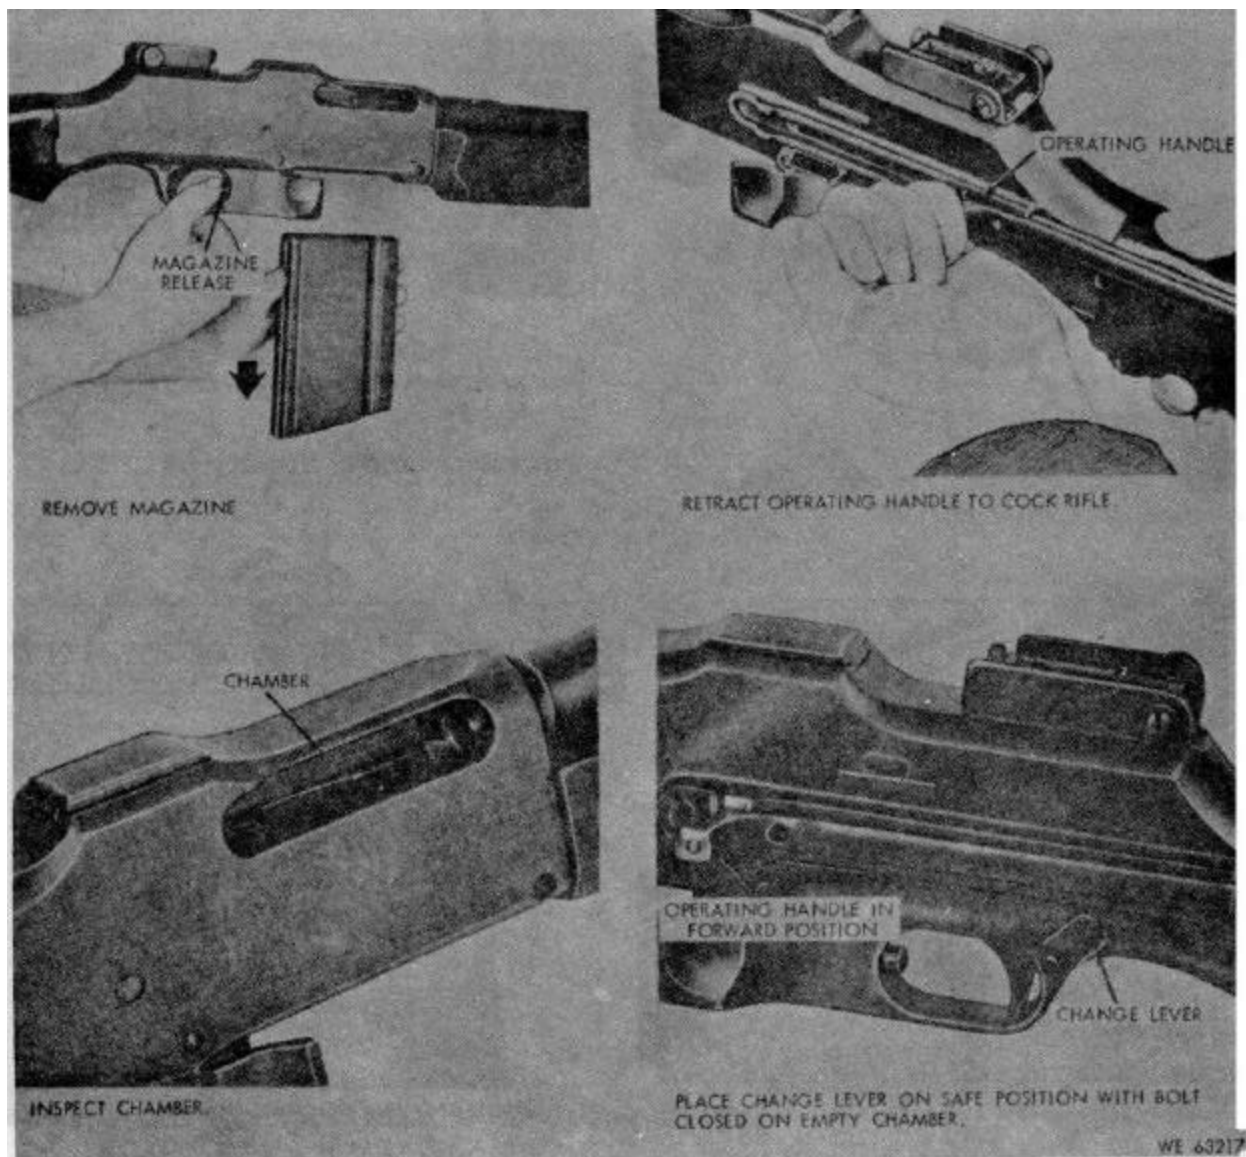

Figure 2-2. Clearing rifle.
- b. Clear rifle as shown in figure 2-2.
Refer to figure 2-2.